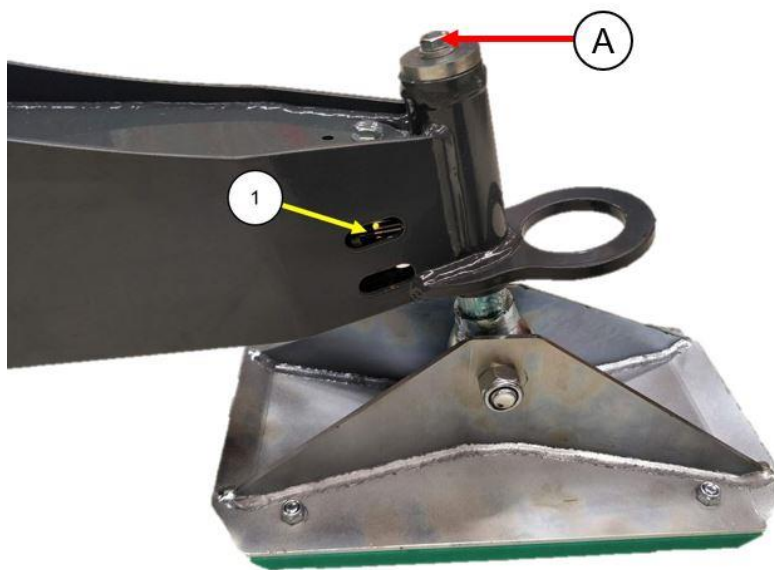

Figure 23 Outrigger limit switch location (A) and position sensor pin locking screw (A)
The position sensor pins on the outriggers should be cleaned and greased with water resistant (e.g. Mobil XHP 222) during the yearly maintenance of the access platform. The pin is removed from the outrigger by opening the locking screw on the end of the outrigger (p. 44, figure 23, A). The pin is moved by a spring which is to be removed before the greasing. Apply only a thin layer (< 1 mm) of grease on the surface of the pin by using a brush for example. After greasing install the spring back on the pin and place the pin back on the outrigger and lock carefully it with its screw.
Outriggers are monitored with an inductive switch. There is one switch in each outrigger which tracks whether an outrigger has been set to the ground or not. Monitoring is based on a spring-loaded pin, which is pushed up when an outrigger is laid on the ground. Switches location in the outrigger pictured below (Figure 23 (1)).